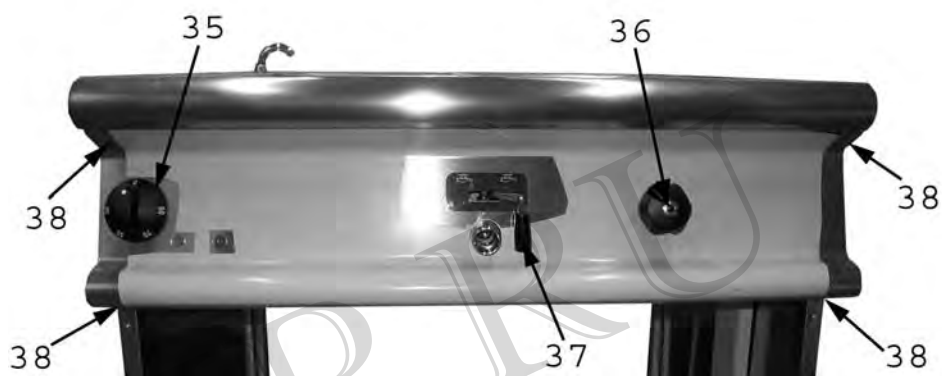

Fig. 6
- take out the knob (item 35 in Fig. 6);
- unscrew the screw shown as item 36 to access the screw that fixes the water tap knob;
- unscrew the knob shown as item 37;
- unscrew the screws shown as item 38 to remove the front panel.